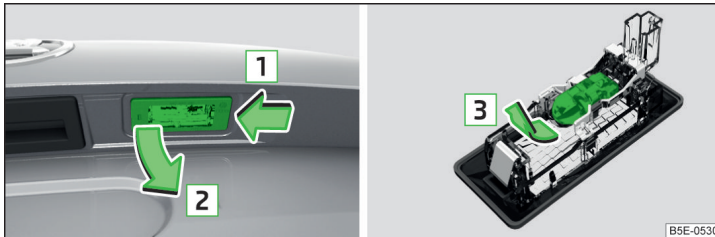

Fig. 230 Remove the number plate light/replace the bulb
- Push in the lamp in the direction of the arrow **1** » Fig. 230.